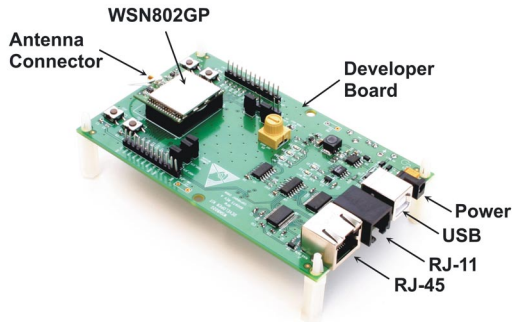

Figure 8.3.1
1. Observe ESD precautions when handling the WSN802GDK developer board. Install an AC plug on the 9 V developer board power supply. Plug the power supply cable into the developer board power connector. See Figure 8.3.1.
2. Referring to Figures 8.3.1 and 8.3.2, install the patch antenna on the developer board antenna connector. The antenna “snaps” onto the connector with moderate pressure. Plug the 9 V power supply in.